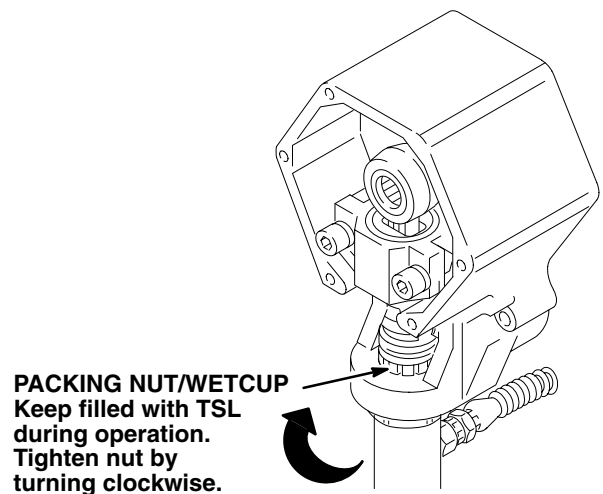

Fig 5
1. **Check the packing nut/wet-cup daily.** Relieve pressure. Keep the wet-cup 1/3 full of Throat Seal Liquid to help prevent fluid buildup on the piston rod and premature wear of packings. Tighten the packing just enough to stop leakage. Overtightening may cause binding and excessive packing wear. See Fig 5.